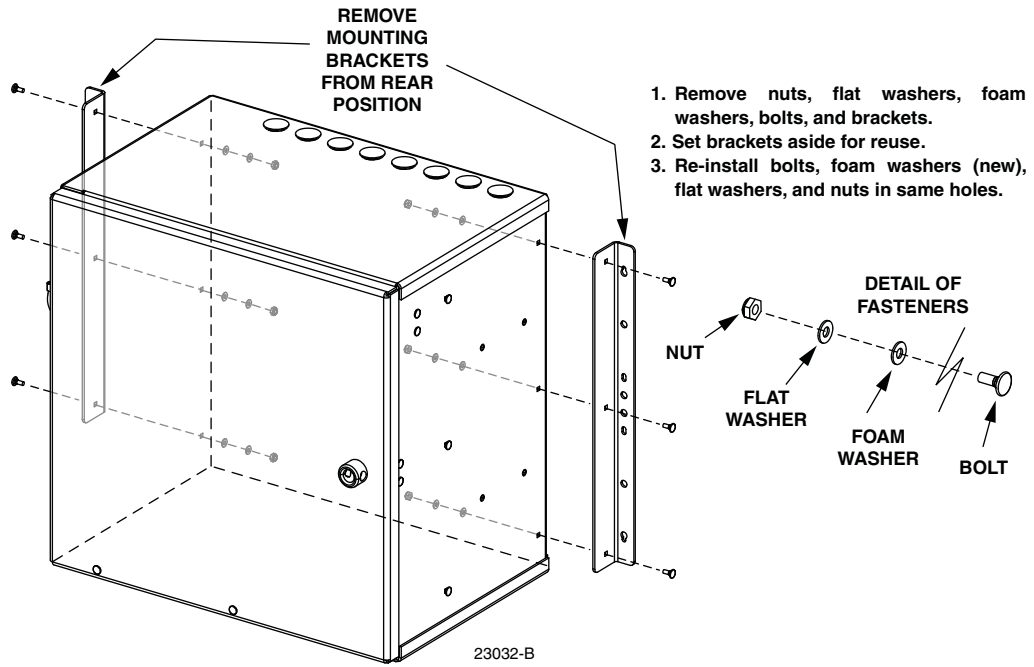

Figure 3. Remove Mounting Brackets From Rear Mounting Position
2. Remove the nuts, flat washers, foam washers, and carriage bolts (three of each per side) that secure the mounting brackets in the rear mounting position as shown in Figure 3.